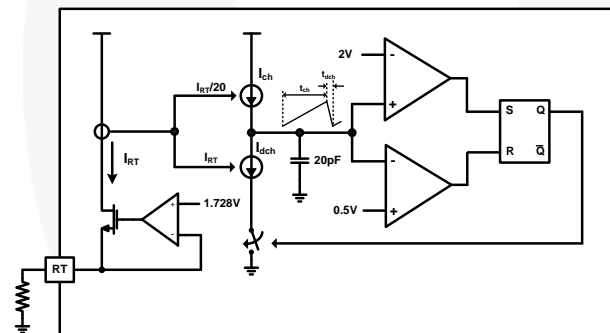

Figure 24. Main Oscillator Circuit
Internal Main Oscillator: The internal timing capacitor (CT), 20pF, is charged by the reference current source, which is formed by the timing resistor (RT). The RT voltage is regulated at 1.728V. The sawtooth waveform charges up to 2V. Once CT voltage is reached, the CT begins discharging down to 0.5V. Next, the CT starts charging again and a new switching cycle begins, as shown in Figure 24. The main frequency is programmed by adjusting the R_T value. The main frequency is calculated as: